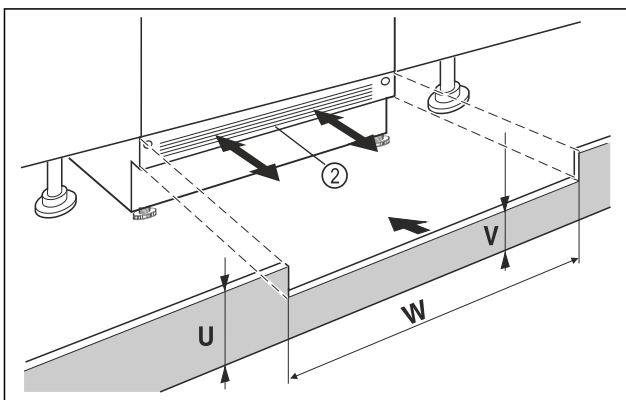

Fig. 69 Example illustration
- ▶ Put on the appliance base cover Fig. 69 (2) but do not fix it yet.
- ▶ If the base cover Fig. 69 (2) is visible, pull it so far forward that the front edge of the ventilation grille and the unit base cover form one level.
- ▶ If the base cover is concealed Fig. 69 (2), push it all the way back.
- ▶ Ensure that the ventilation slots are completely free: If necessary, cut the height of the unit base cover Fig. 69 (U) to size!
- ▶ Adjust the bar height Fig. 69 (V) under the appliance base cover Fig. 69 (2) along the recess width Fig. 69 (W).